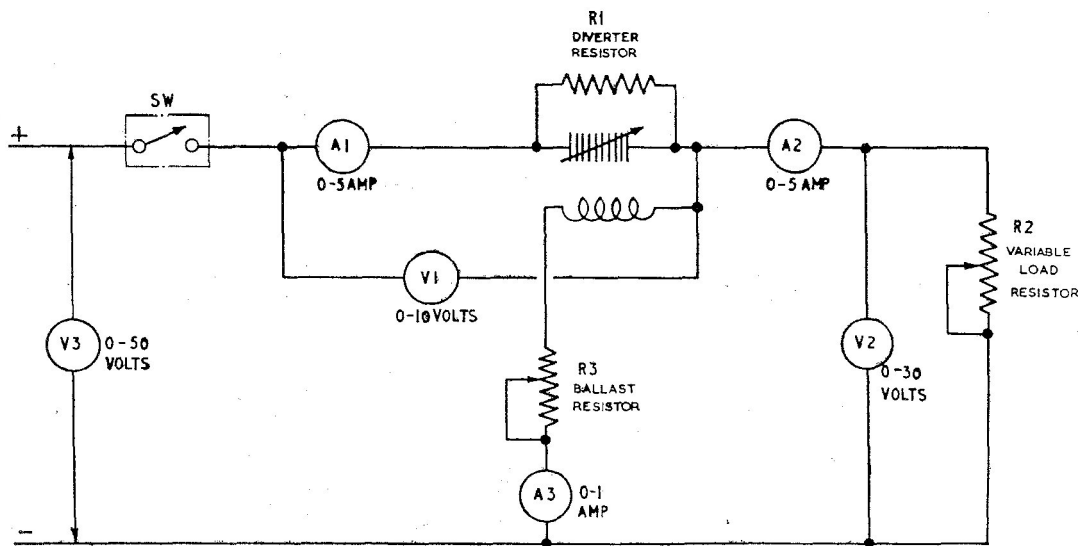

Fig. 3. Test circuit diagram
6. Connect the regulator in the test circuit shown in fig. 3, and to a supply which can be